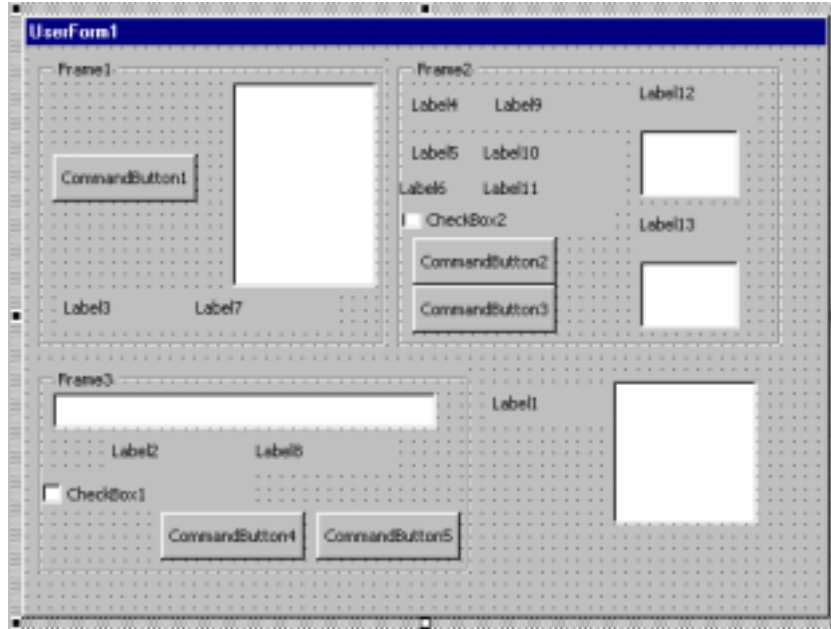

Figure 21: TekVISA Test Run form before changing default captions and appearance of controls
9. Similarly, drag the rest of the needed controls onto the form, making sure that each control is placed as shown in Figure 21.
Table 8, Table 9, Table 11, and Table 12 (which appear later in this chapter) summarize all the changes to make in the Properties window to convert the UserForm from its appearance in Figure 21 to its final appearance.